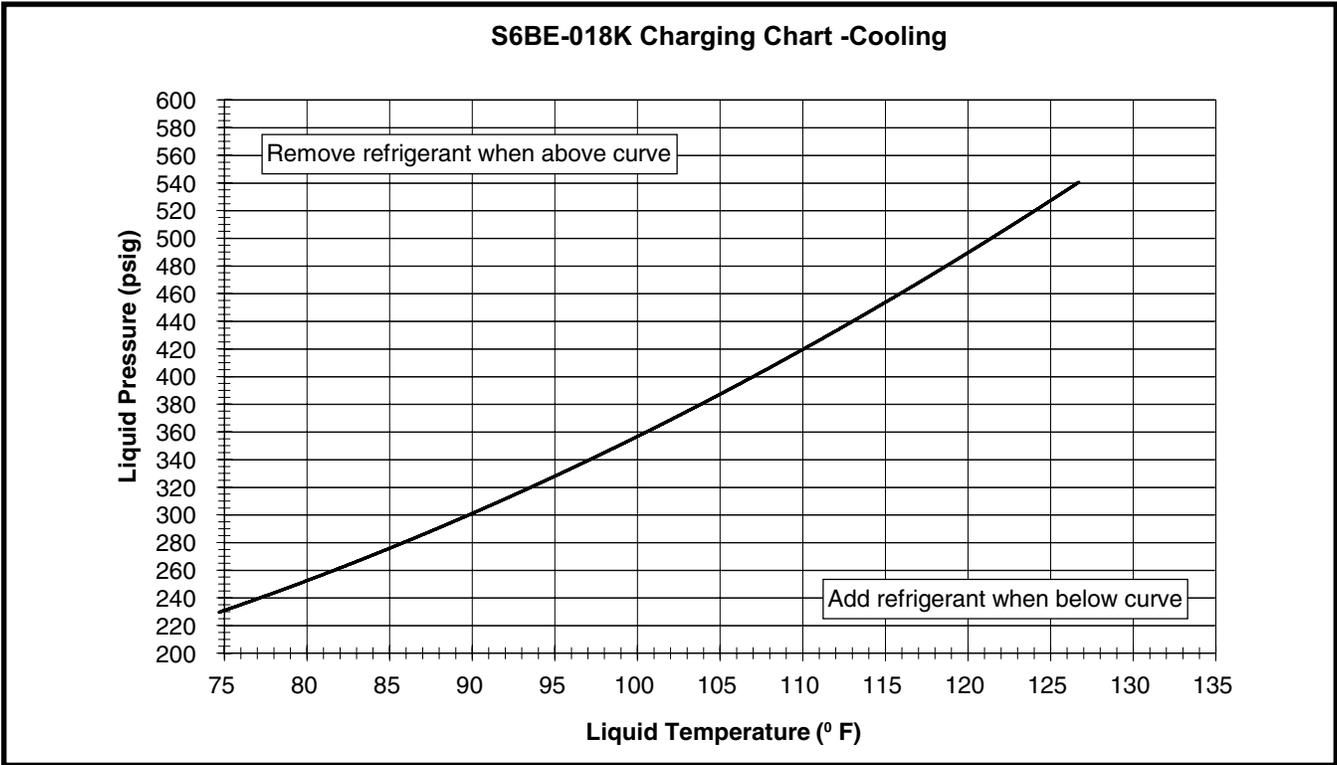
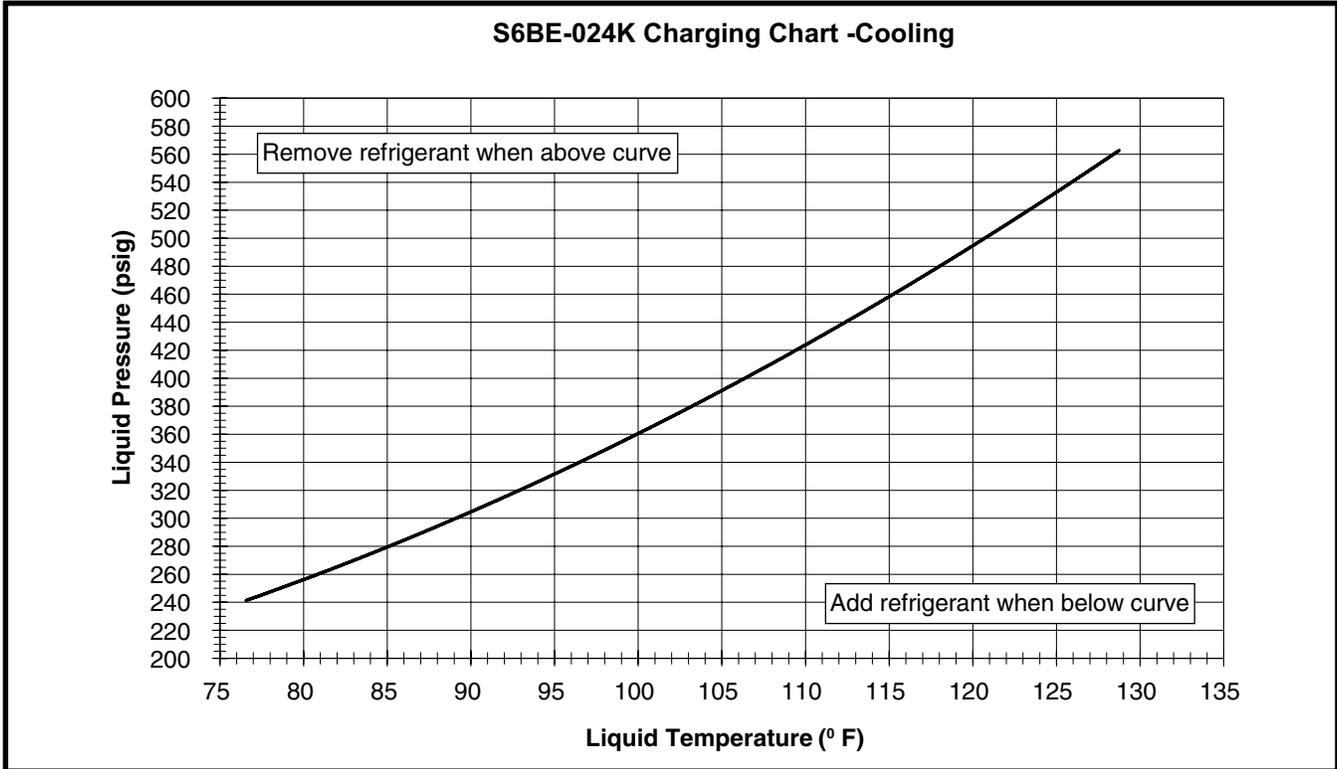
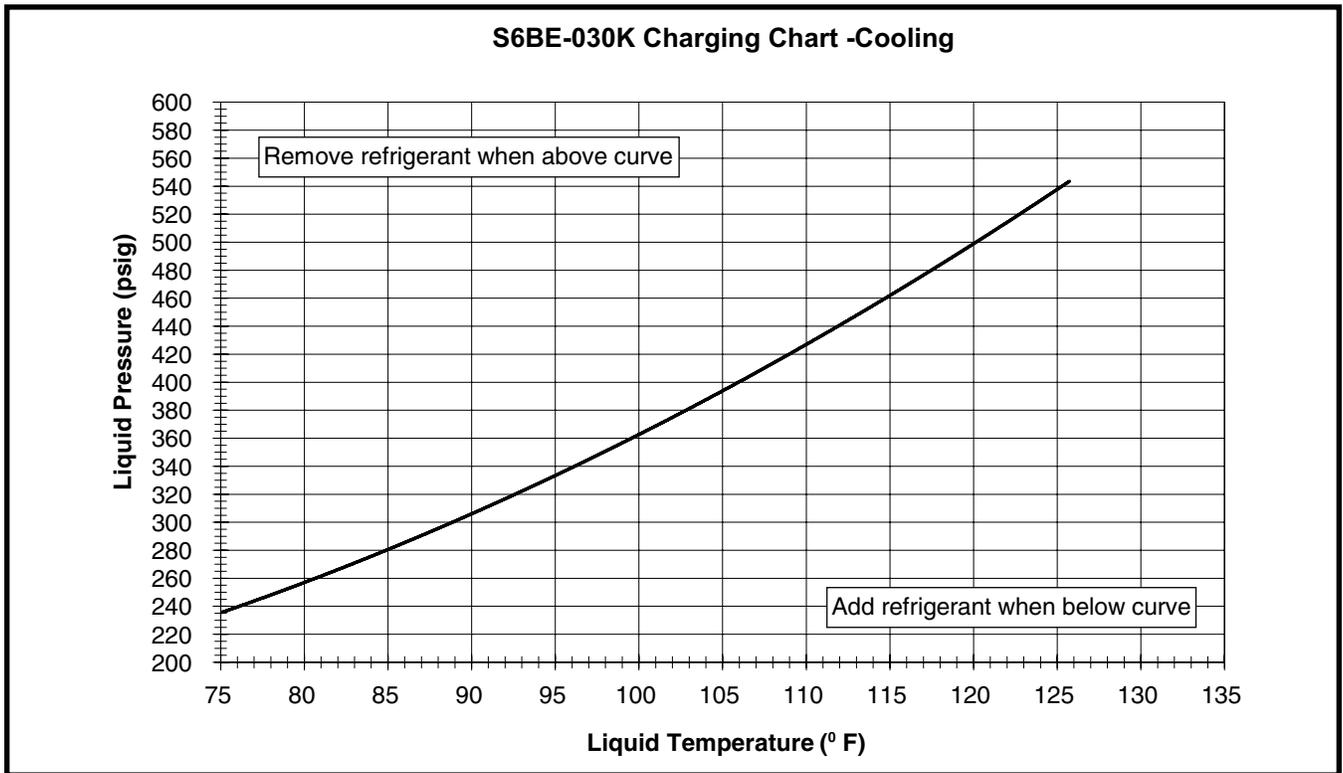
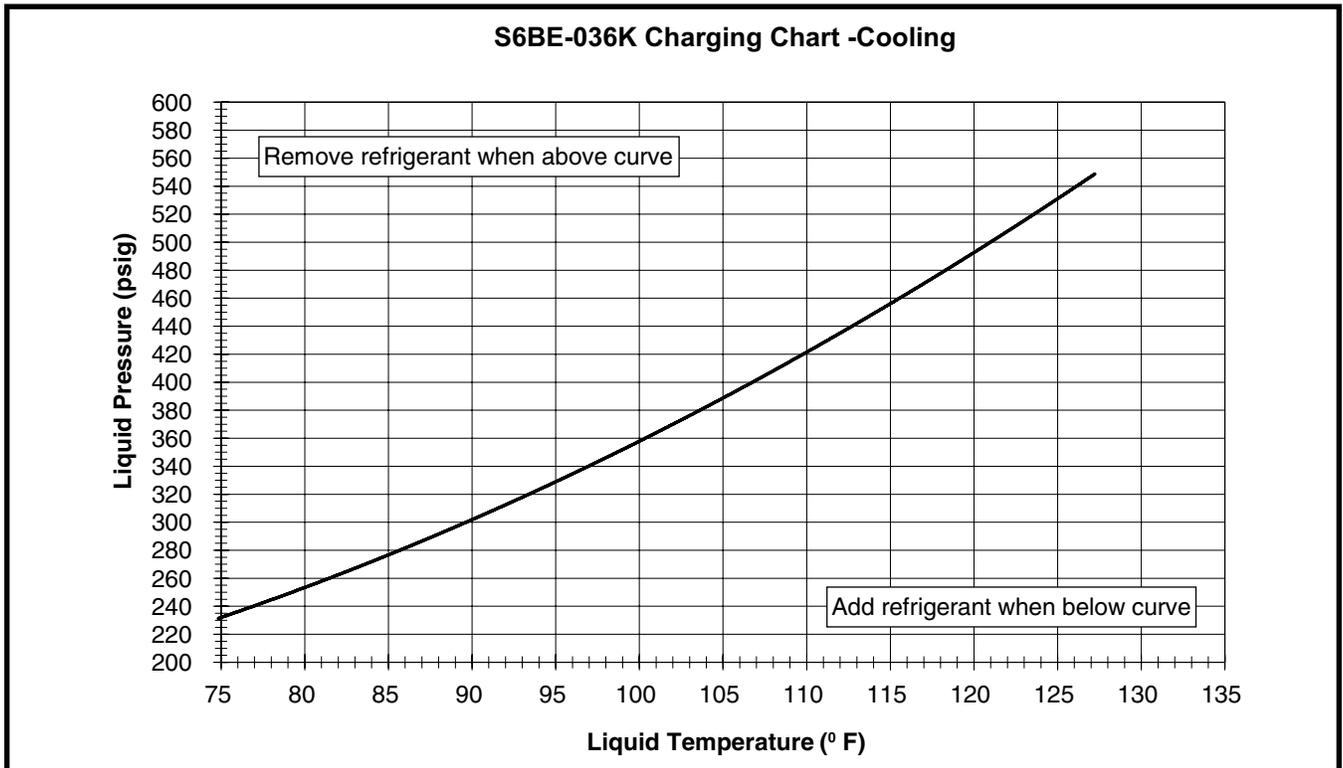

Figure 2. Charging Chart (1.5 Ton Models)
Figure 3. Charging Chart (2 Ton Models)
Figure 4. Charging Chart (2.5 Ton Models)
Figure 5. Charging Chart (3 Ton Models)
- The refrigerant charging charts Figure 2, \(page 8\), Figure 3, \(page 8\), Figure 4, \(page 9\), & Figure 5, \(page 9\) are applicable only to matched assemblies of NORDYNE equipment and listed airflows for the indoor coil. **NOTE:** Before using these charts, make sure the unit is in a stable operating mode. As shown in the charts, the ideal system sub-cooling can vary over the range of operation. Reference the charts to determine the ideal amount of sub-cooling for a given liquid pressure. Units charged to other values will not perform at the rated unit efficiency (EER) or rated Coefficient of Performance (COP) in heating mode.